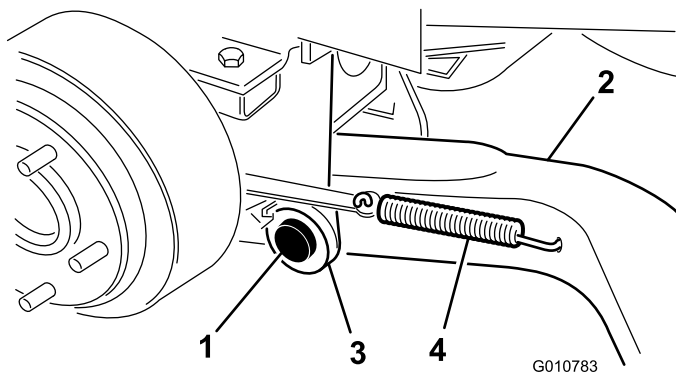

Figure 4
- Mount a lift arm (with the ball joint end positioned outward) to the pivot bracket with a pivot pin and a cotter pin (5/32 x 1-3/4 inches) (Figure 4).
- Hook the brake return spring to the hole in the lift arm (Figure 4).